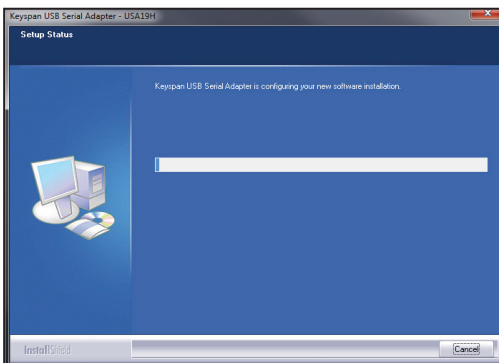

Fig. 9 Configuring
- The screen will read Configuring (Fig. 9). Wait until the bar finishes loading; then the screen will read Installation Complete. Click Finish to complete the installation.